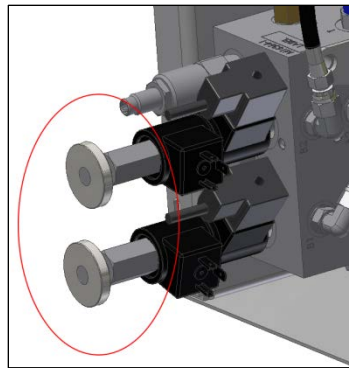

Fig. 1: Solenoid Valve Override
- 2.3.13 In order to make the adjustments needed for the system to function properly, it will be necessary to manually operate the unit. Manually moving (jogging) the Power Select is accomplished by starting the hydraulic pump and then pushing or pulling the red manual override disks located on the ends of the solenoid valves. (Fig 1) **Note:** *You will notice that it is much easier to push the valves than to pull them. This is normal.*